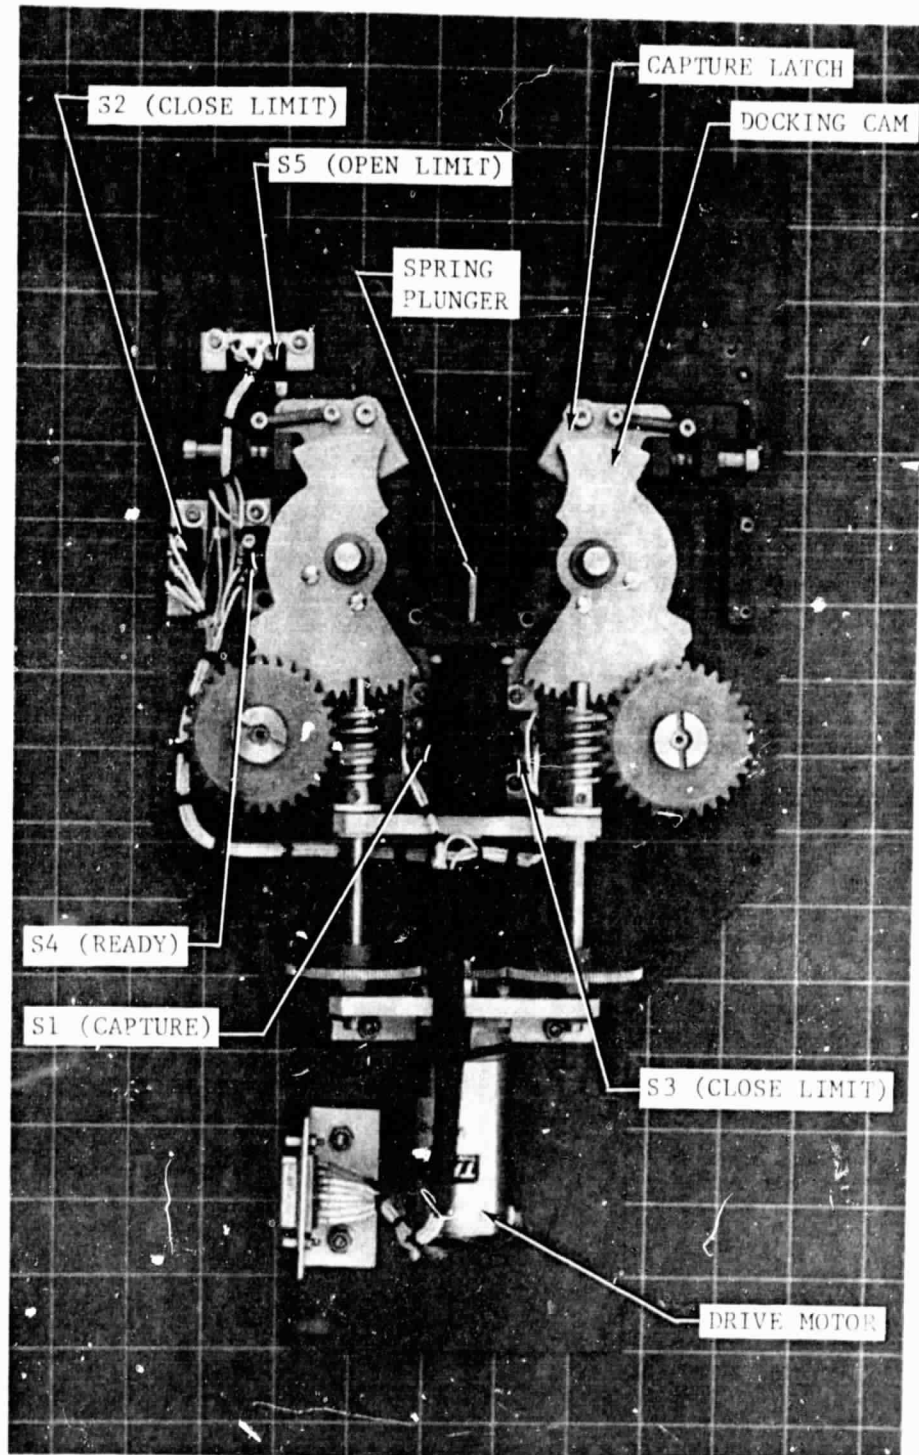

Figure 2.4: Final Configuration of Docking Device shown
- c. The trunnion position plunger assembly was redesigned to allow a capture indication with a depressive force of 0.45 kg hard capture. Position plunger completely depressed requires a force of 22.7 kg (Figure 2.4 and dwg. no. 478001-Spring Plunger Assembly, Appendix C).
The final configuration of the docking device (Figure 2.4) utilizes a symmetrical pair of gear-driven cams which rotate through an arc of 60° to fully retract to a position inside the latch housing. The geometry of the latches is such that once a soft capture is made, the berthing pin is within grasp of the concave surface of the pair of cams. The total linear excursion is approximately 1.6 cm. The rotational force of the cams is obtained through a gear train which includes a worm/wheel combination. A separate gear train drives each cam; however, power is provided from a common D.C. gear motor. The reduction ratio of the gearing system (excluding that internal to the motor) is 108.89:1 for each side which, when coupled with the output of the TRW Globe model 5A2313-21 gear motor, gives a theoretical nominal output torque for each cam of 490 Ncm and a theoretical stall torque of 3006 Ncm. With both cams assumed to have equal contact with a berthing pin, this would result in a nominal total docking force of 257.2 N and a limit of 1577.9 N. Because of the trunnion position plunger's opposing force of approximately 222.4 N, this would result in a total theoretical docked force of 1355.5 N. Figure 2.5 illustrates the docking sequence using a berthing pin from the MMS mockup.